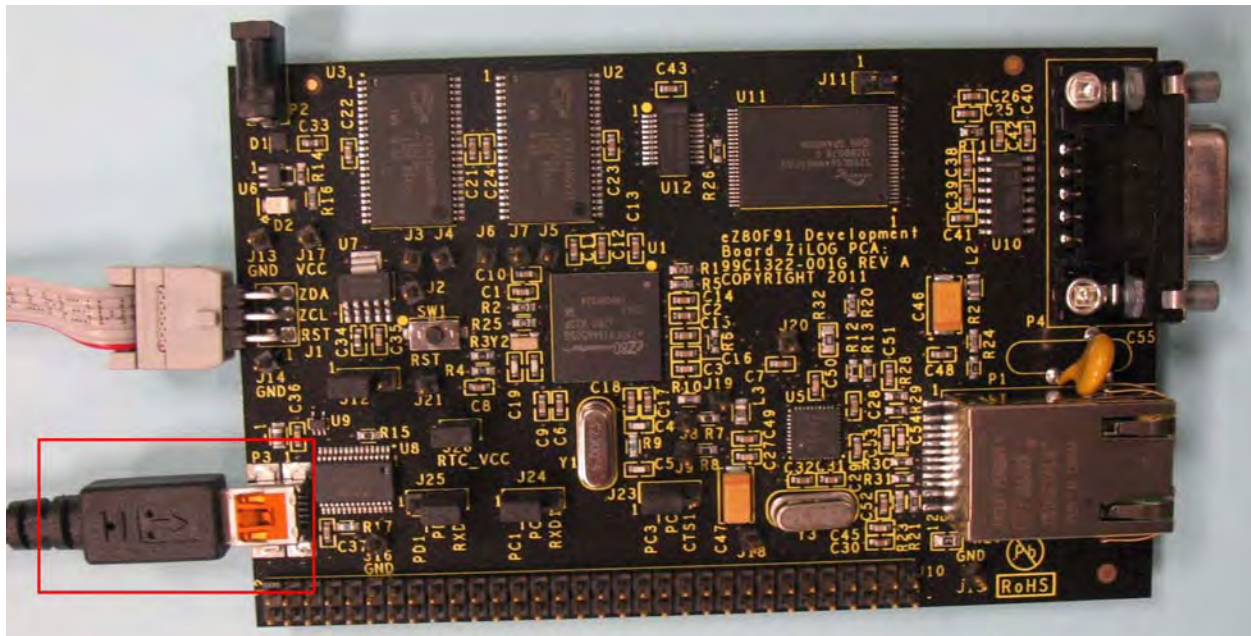

Figure 5. USB-to-UART Port 3 Connector
3. With the USB A (male) to Mini-B cable, connect Port P3 on the eZ80AcclaimPlus! Development Board to a USB port on the development PC to apply power to the Development Board, as highlighted in Figure 5.